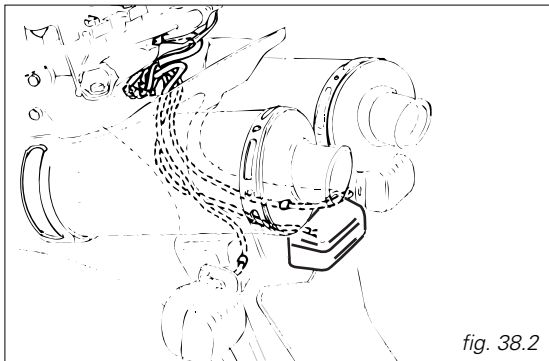

fig. 38.2
**Number plate light** (fig. 38.2)